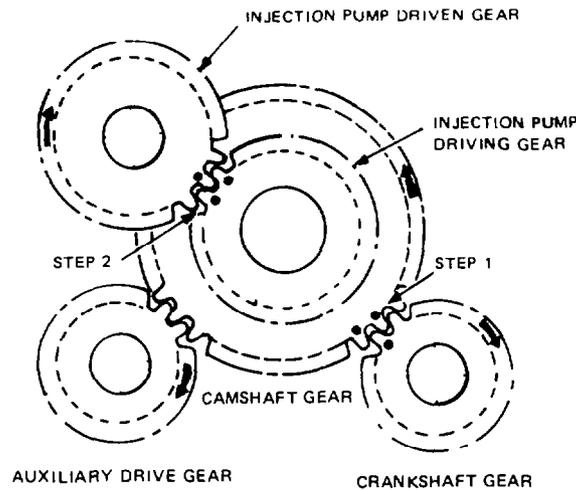

Fig. 69 — Timing Marks
- d. Insert the injection pump drive shaft through the rear of the housing; fit the key to the shaft; fit the two piece gear to the shaft so that the timing mark on the gear is aligned between the two timing marks on the driving gear (see fig. 69).